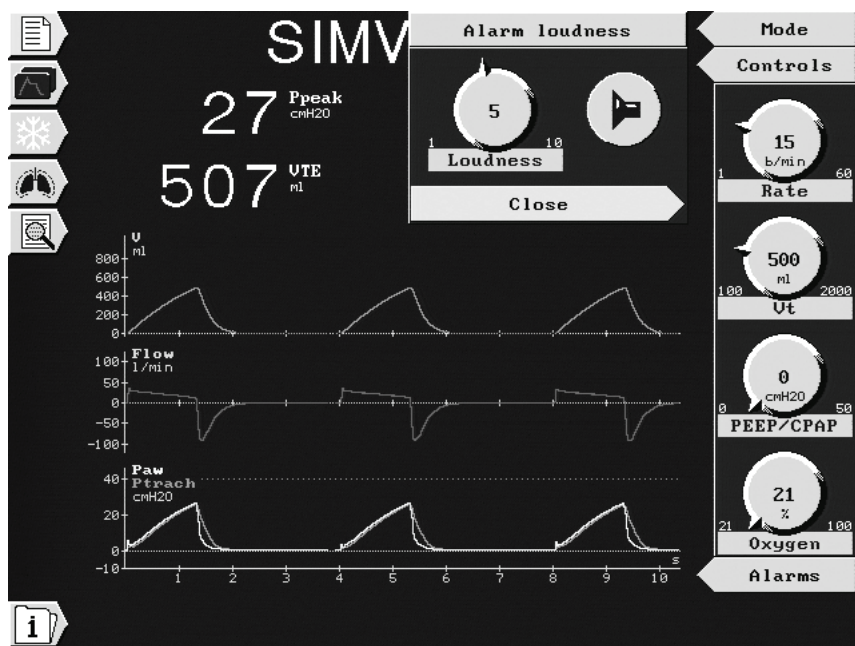

Figure 4-8. Alarm loudness window
2. Select the loudspeaker symbol, then activate it to open the **Alarm loudness** window (Figure 4-8).